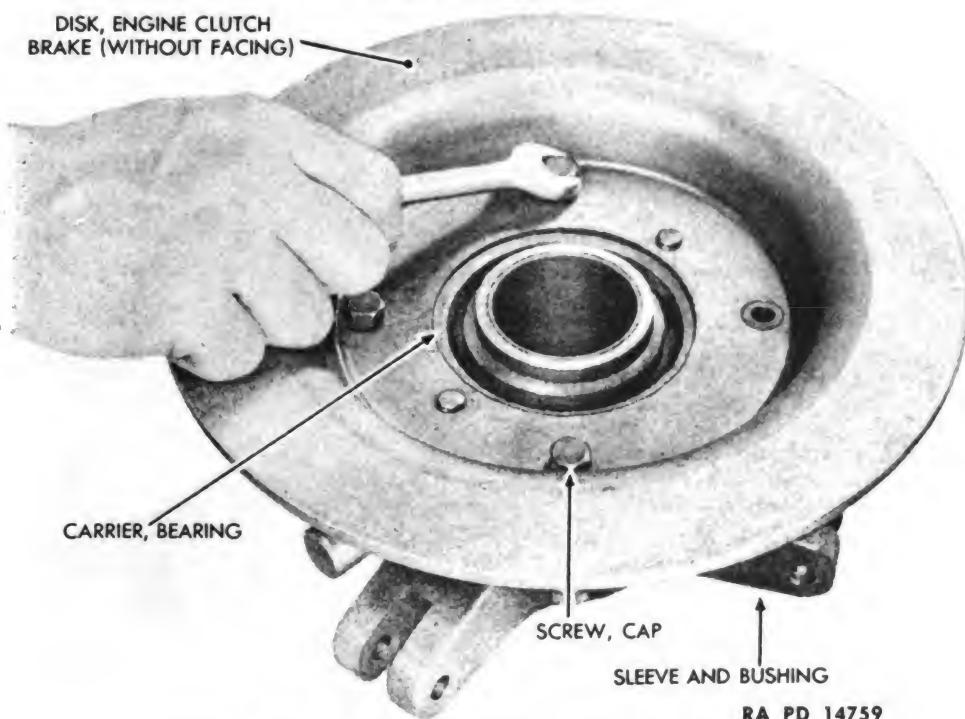

Figure 23 — Engine Clutch Brake Disk Removal
(11) **REMOVE ENGINE CLUTCH BRAKE DISK** (fig. 23).**HAMMER, rawhide****WRENCH, open-end, $\frac{1}{2}$ -in.**
(9) INSTALL BRAKE DISK (WITHOUT FACING) (fig. 23).